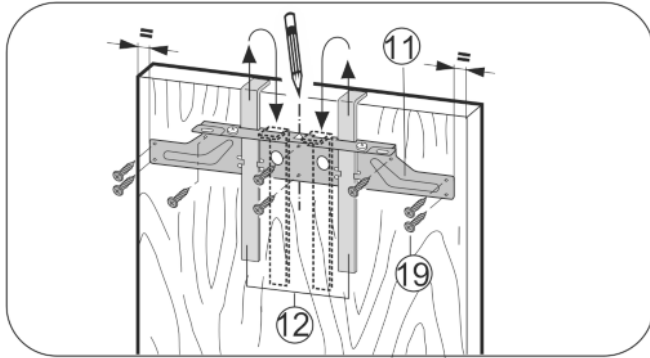

Fig. 28
- ▶ Hang the crosspiece Fig. 28 (11) on the inside of the unit door using the fitting aids Fig. 28 (12).
- ▶ Align the crosspiece Fig. 28 (11) to the middle of the door.
- ▶ Secure the crosspiece Fig. 28 (11) with at least 6 screws Fig. 28 (19).
- ▶ Secure the crosspiece Fig. 28 (11) with 4 screws Fig. 28 (19) at the edge.
- ▶ Lift up fitting aids Fig. 28 (12), turn round and insert into the adjacent openings.